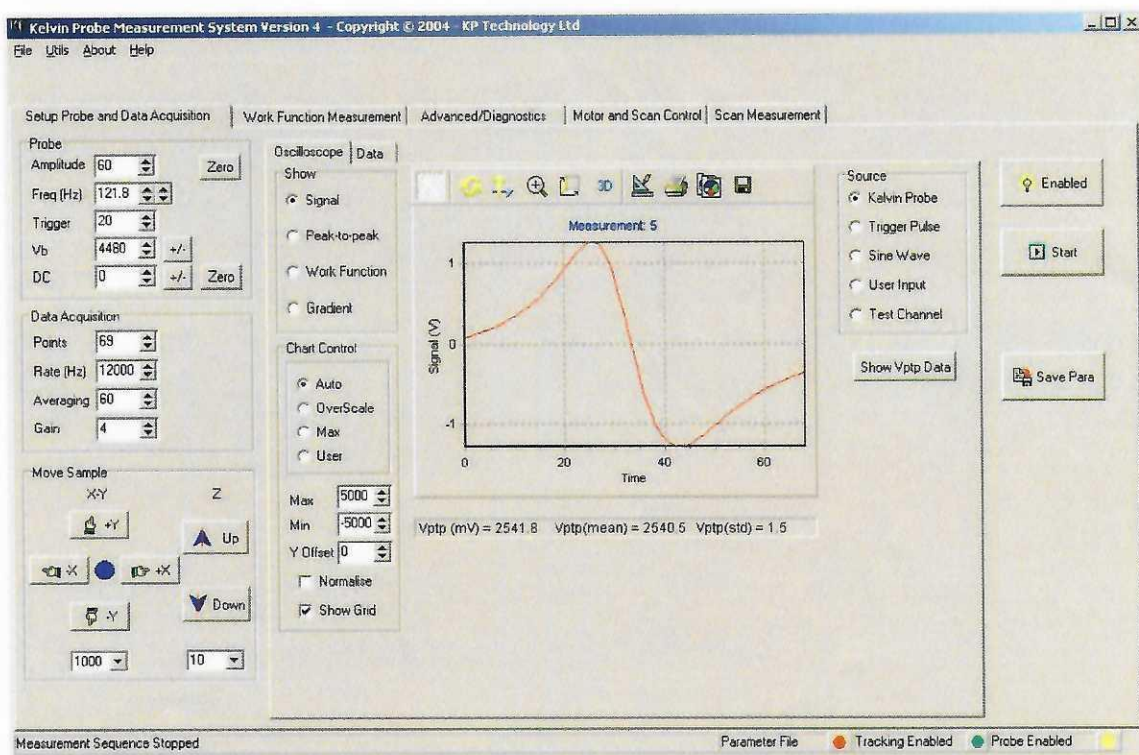

Figure 13. Initial setup featuring the Oscilloscope tab.
You can edit the parameters, and see how this effects the data. Use the edit or spin control buttons to change parameters. The parameters are saved when either the 'Save Para' button is pressed or via the File Menu Option. The Para File prompt at the bottom of the screen will turn red if any of the current parameter set is changed and green when the new file is saved to disk. Please be careful not to type in an inappropriate number, e.g., rate 0. **Adjust the parameters so that Kelvin Probe signal shows one minimum and one maximum**, similar to the signal you see in Figure 13 above.
Figure 15. Example of **incorrect** set-up for WF and Grad calculation as there are two maxima and two minima displayed. The calculation software will only function correctly if part of one period is displayed with a single clear peak and a single clear trough such as that shown in Figure 13.
7. To alter the phase of the initial point in the data array use Probe:Trigger. Figure 16 when compared with Figure 13, illustrates the effect of changing the Trigger point from 80 to 93.